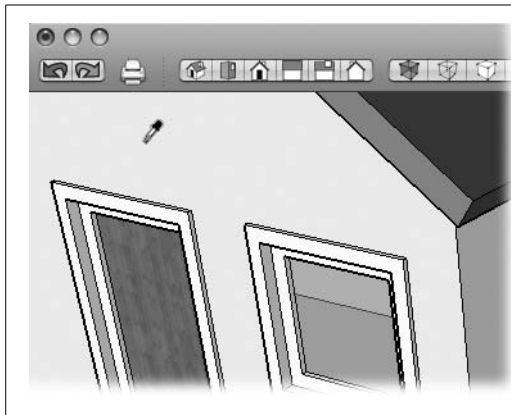

Figure 6-23:
Sometimes when you're applying colors with the Paint Bucket (B), you want to load the bucket with a new color or texture. Sure, you can go back to the Colors window and hunt down the color you need. However, if the color is already applied to one of the faces in the model, there's a quicker way to fill the bucket with that color. When you press **⌘**, the bucket cursor changes to an eyedropper, as shown in Figure 6-23. Click the eyedropper on the face with the color or material you want to copy. Release the **⌘** key, and the bucket cursor reappears. You're all set to paint some new surfaces.